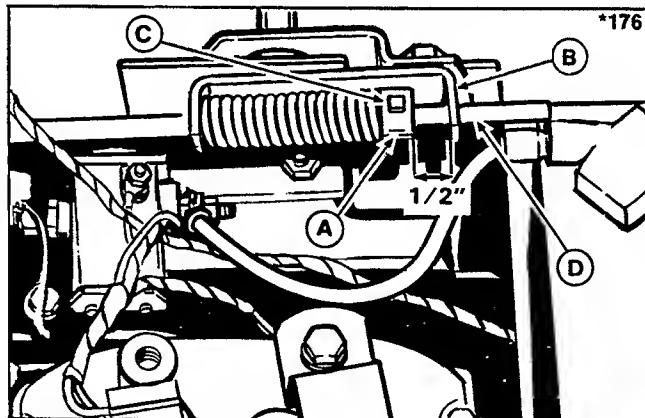

Figure 11. PTO Adjustment
2. Raise the seat deck. Measure the distance between the set collar (A, figure 11) and rod guide (B). The distance should be $1/2$ inch (13 mm). If not, proceed to step 3.
3. Disengage the PTO. Loosen the setscrew (C) and change position of set collar on rod by pulling or pushing on rod. Tighten the setscrew.